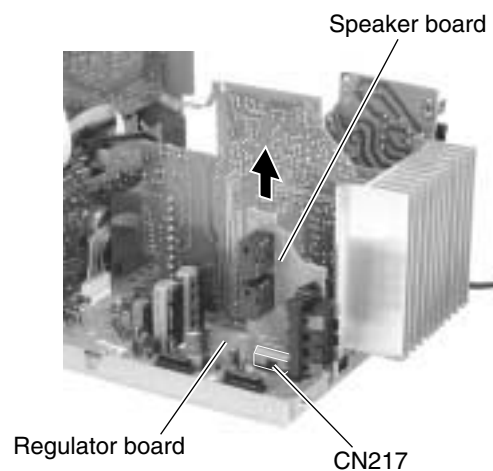

Fig.19
■ Removing the speaker board (See Fig.19)